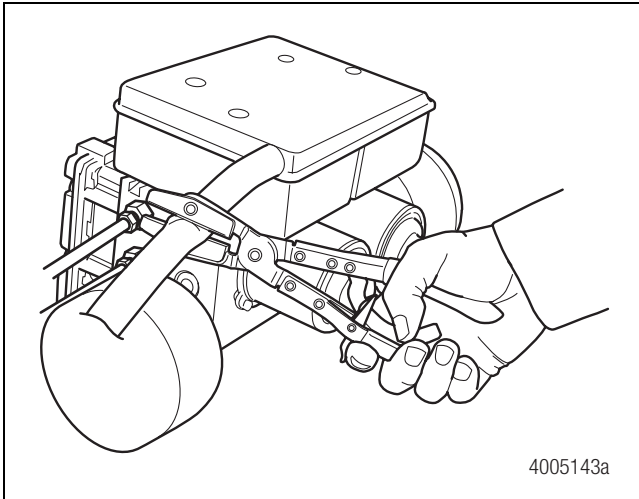

Figure 4.53
7. Attach a pinch clamp to the low pressure hose at the HCU reservoir. Figure 4.53.